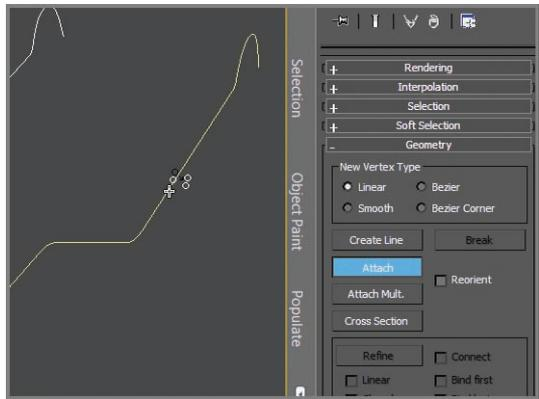

FIGURE 4.23 Attach both sides of the chair frame.
- 18. With either spline selected, go to the Geometry rollout, click the Attach button, and then click on the other spline, as shown in Figure 4.23.